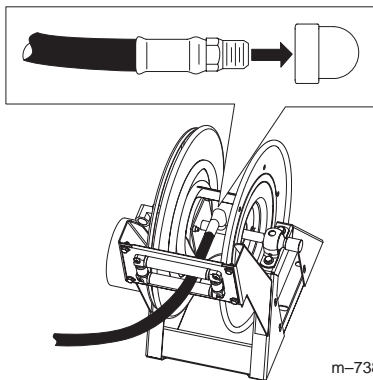

Figure 11
1. Wrap Teflon tape around the threads of the hose fitting on the long hose and install the fitting into the connecting tube on the reel (Fig. 11).